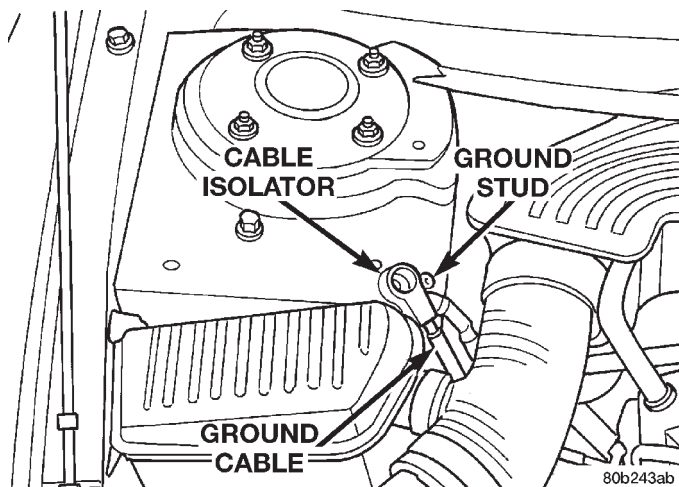

Fig. 52 Correctly Isolated Remote Ground Cable
(1) Remove the battery ground cable from the ground stud on the right strut tower. Then, correctly isolate the ground cable by installing the cable isolator on the ground stud (Fig. 52).